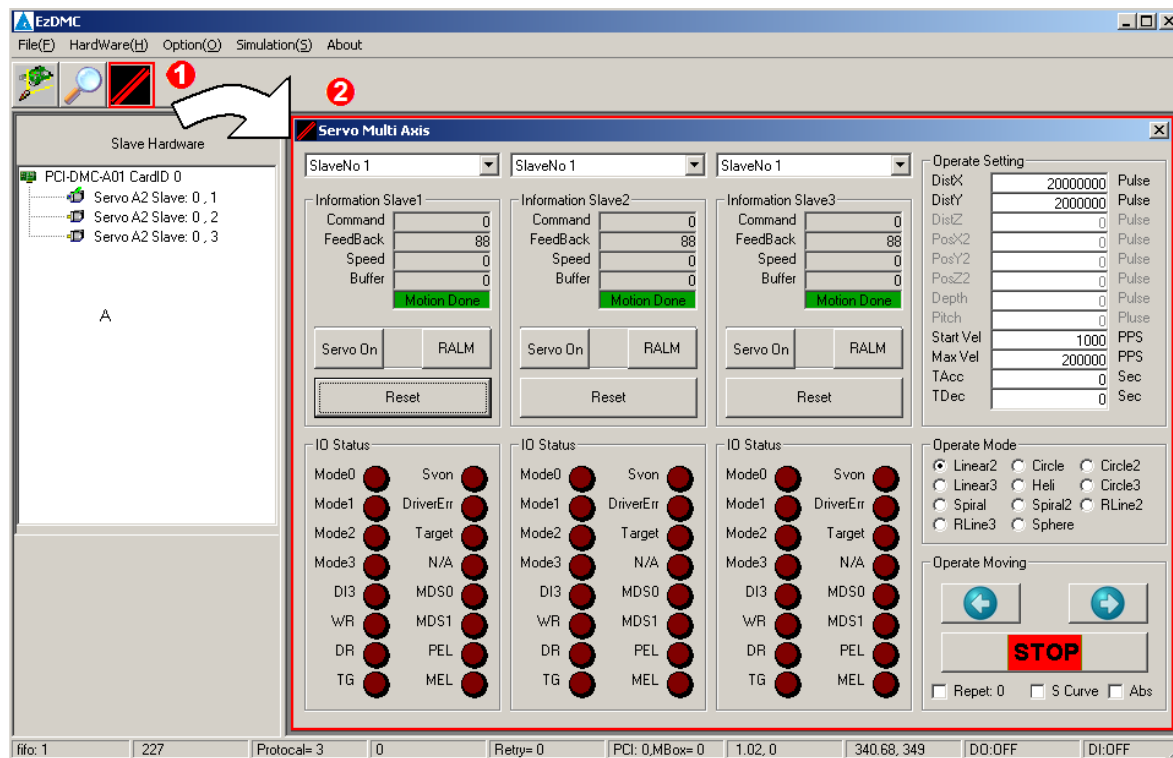

Figure 3.9
When you have added the connected extension modules to the serial communications link, if you wish to perform multi-axis motion control then click on the third menu motion (marked with square bracket ❶) in the EzDMC "Toolbar" to execute Multi-Axis Control. The multi-axis control window will appear in the right display block (❷) as shown in Figure 3.9.